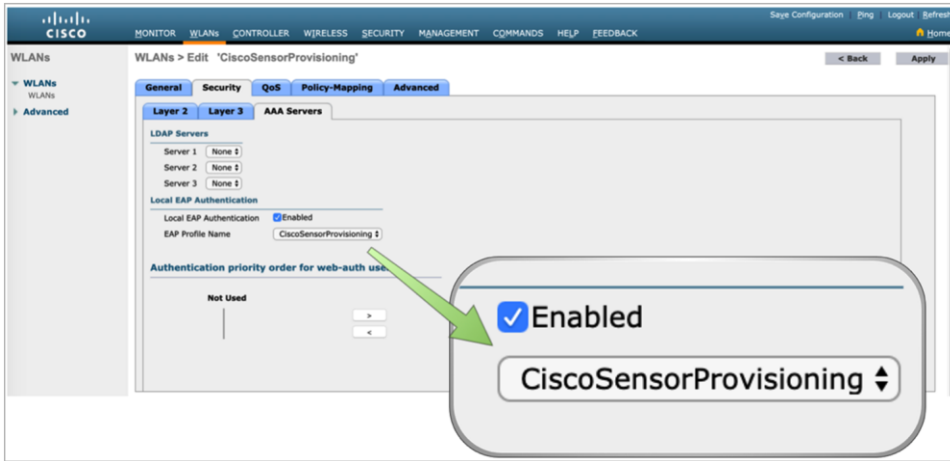

Figure 14.
- b. Ensure that the SSID and local authentication profiles have now been created (Figure 14).